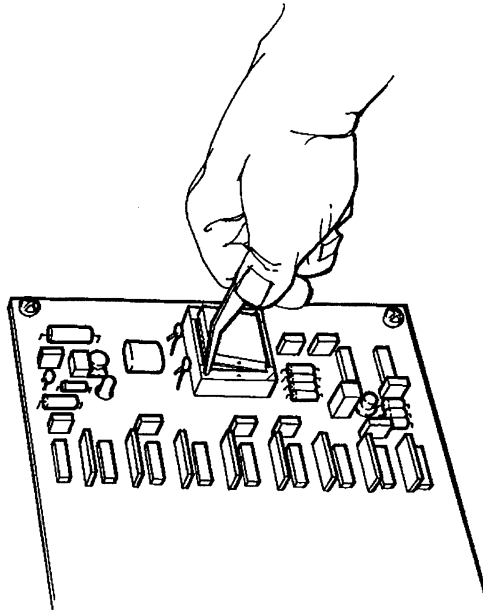

Figure 7 Firmware Removal
5. Remove 081004 firmware from socket by using the enclosed extraction tool (027338). See Fig. 7.